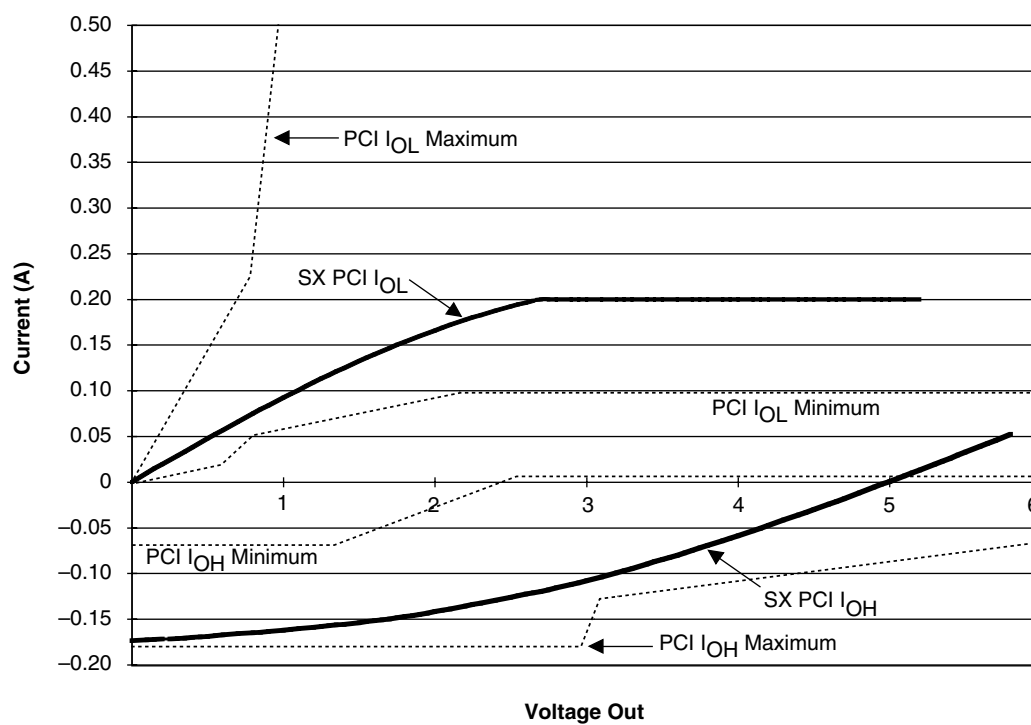

Figure 8 • 5.0V PCI Curve for A54SX16P Family
1. Refer to the V/I curves in Figure 8. Switching current characteristics for REQ# and GNT# are permitted to be one half of that specified here; i.e., half size output drivers may be used on these signals. This specification does not apply to CLK and RST# which are system outputs. "Switching Current High" specification are not relevant to SERR#, INTA#, INTB#, INTC#, and INTD# which are open drain outputs.
3. Maximum current requirements must be met as drivers pull beyond the last step voltage. Equations defining these maximums (A and B) are provided with the respective diagrams in Figure 8. The equation defined maxima should be met by design. In order to facilitate component testing, a maximum current test point is defined for each side of the output driver.
Figure 8 shows the 5.0V PCI V/I curve and the minimum and maximum PCI drive characteristics of the A54SX16P family.